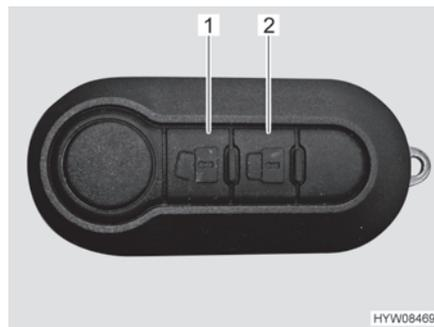

Fig. 58 Remote control for central locking system (2 buttons)
- Press the  button (Fig. 58,1) once briefly. The door locks are unlatched.
- Press the  button (Fig. 58,2) once briefly. The door locks are locked.